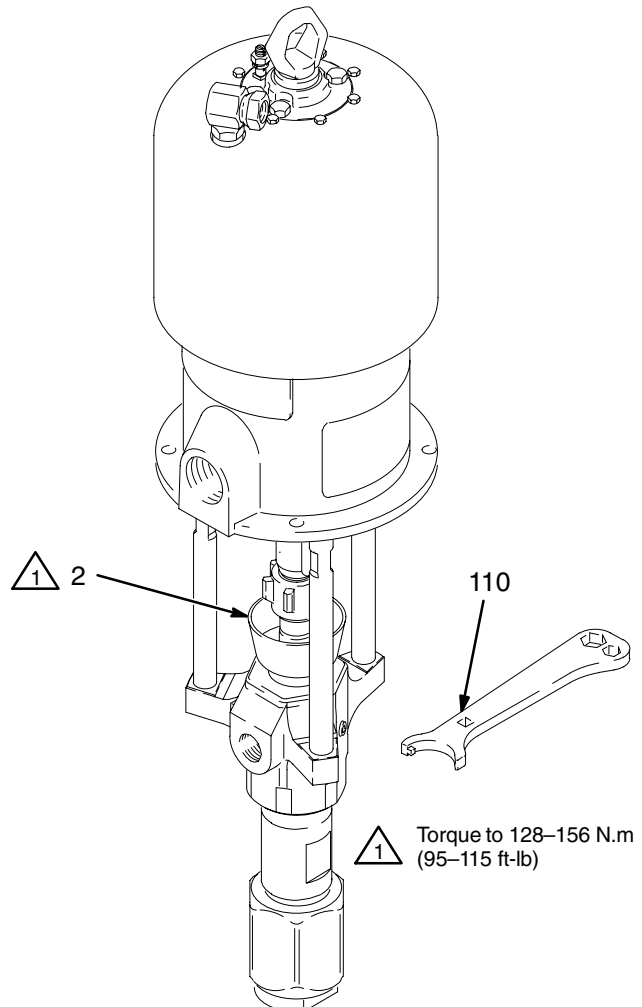

Fig. 4 **Model 236475 Shown**
Before starting, fill the packing nut (2) 1/3 full with Graco Throat Seal Liquid (TSL) or compatible solvent. See Fig. 4.